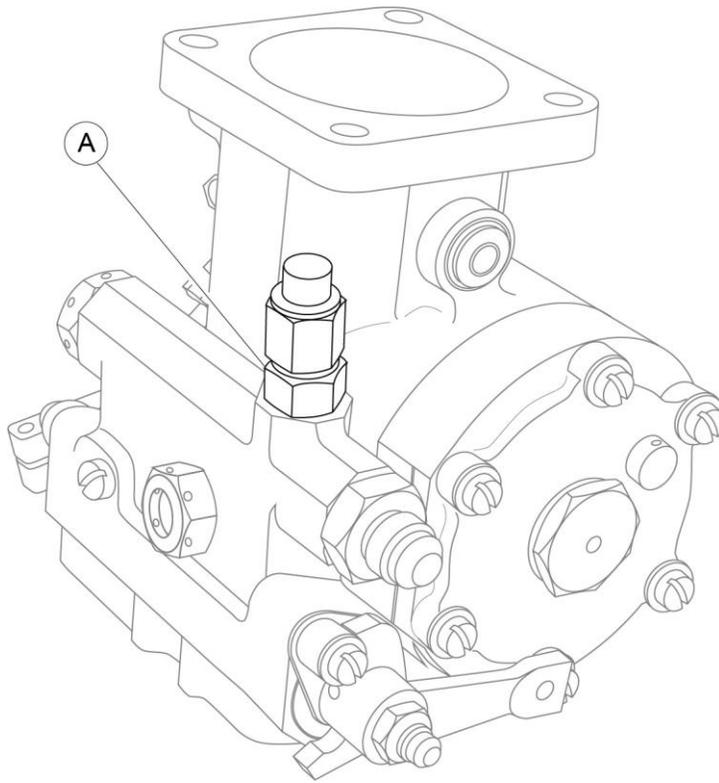

Figure 1: Vapor Return Fitting with cap on Piper installation of IO-360-B4A
1. Remove the capped Vapor Return Fitting (**A**) shown in Figure 1 from the Fuel Servo.